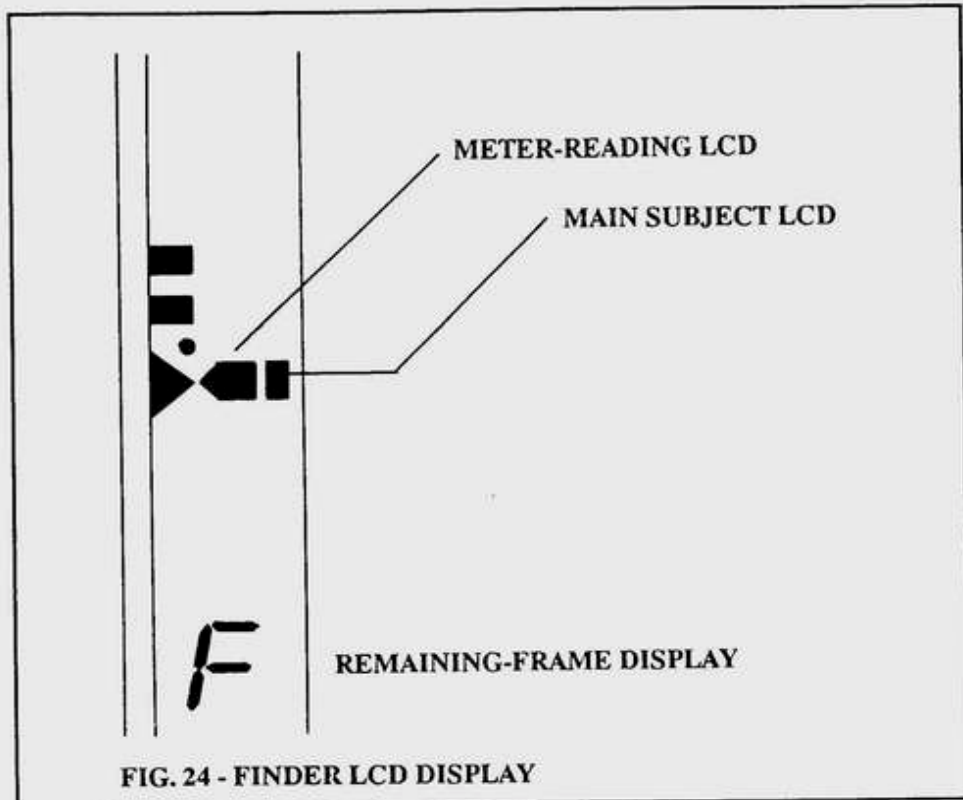

FIG. 24 - FINDER LCD DISPLAY
SW29. Highlight-control switch on top-cover switch panel, Fig. 28 (marked with an arrow pointing up). Connects to IC5 pin 37 through the blue top-cover wire, Fig. 28. When you're using the 300TL Speedlite in the FE-lock mode, the highlight and shadow switches allow you to independently control the exposure levels of the main subject (flash) and the background (ambient light). The finder LCD, Fig. 24, shows the exposure levels for the main subject and the background.
3. In the FEL mode (flash-exposure lock), the 300TL provides a preflash when you push the spot-metering button, Fig. 2. The exposure is then locked in, and you can reframe the subject. Also, you can independently control the available-light exposure. The finder LCD shows the exposure of the main subject (flash) and the camera's meter reading, Fig. 24. By using the highlight and shadow buttons, you can control the amount of exposure to the background.